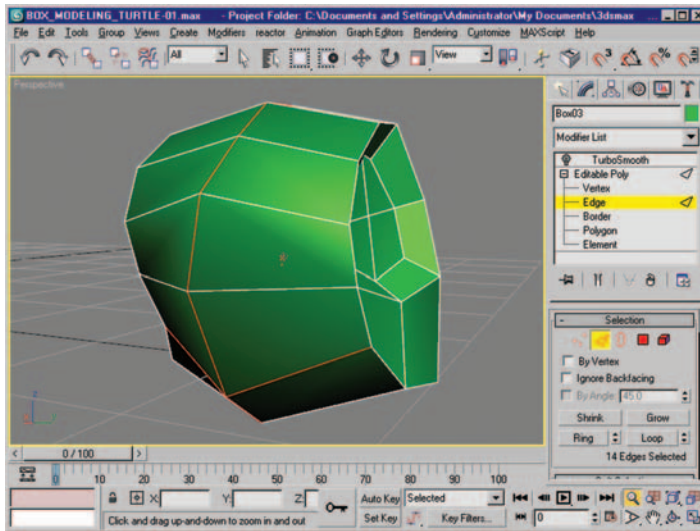
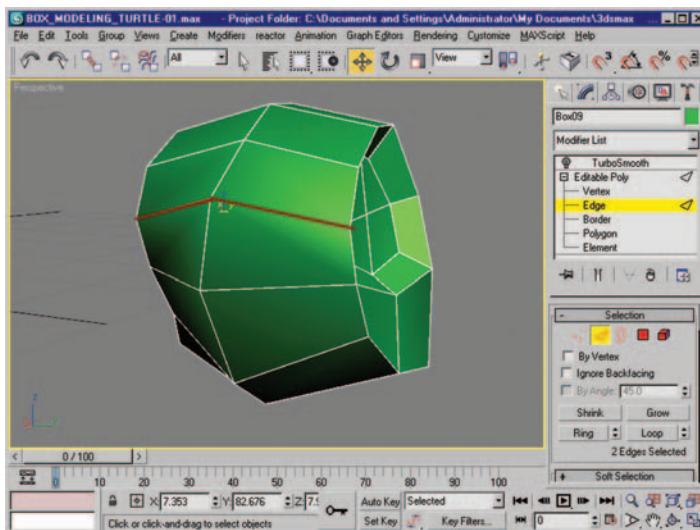

Figure 2.43 New, more developed shape. Red edges are the areas we moved and/or scaled to create a more organic mesh.
Figure 2.44 Long edges to use for Ring selection and Connect are highlighted.
9. We have a good foundation for the eye area. Next we are going to do more edge/vertex moving and scaling to develop the shape of the turtle's head further. Figure 2.43 shows the new shape after the changes are made to the mesh. The highlighted edges (red) are the edges we moved or scaled to get a more round, or organic, shape to the object. In Figure 2.44 you will notice the long horizontal edges running out from the center line